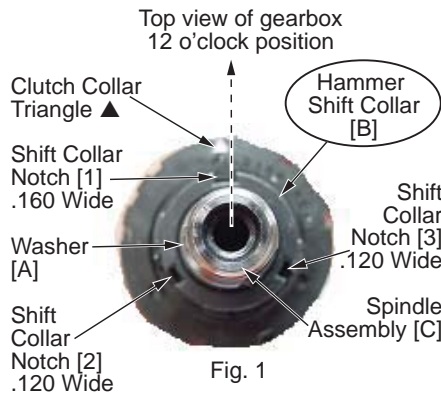
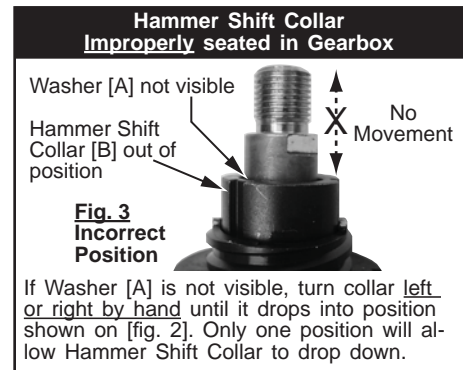

Fig. 1
Fig. 3 Incorrect Position
- Hammer Shift Collar [B] notch [1] with the .160 wide notch in-line or slightly left of gearbox 12 o'clock position (fig. 1).
☞ If hammer Shift Collar [B] is out of position, it will look like example shown in (fig. 3).
- Locate and identify post [E] on the inside of clutch ring [A], fig. 1.
- Align two piece clutch assembly [A,B], as shown in fig. 1.
- Hold gearbox assembly, fig. 3 in one hand with the 12 o'clock position facing up.
- Install clutch ring assembly [A,B], figs. 1,2 over gearbox assembly, fig. 3 in direction of arrows.
- Failure to hold clutch ring symbols together, as shown in figs. 1,2, when installing clutch ring assembly, will result in a misalignment of the internal clutch ring post, shown / illustrated in step 5.